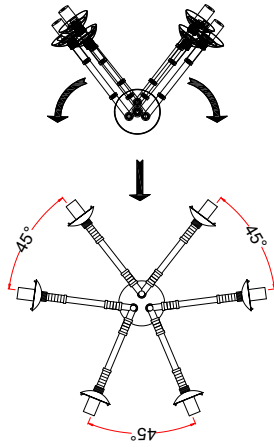

Fig 1.
3. Adjust the angle of the lamp arm according to Fig 1.
5. Remove mounting plate(A) from the canopy(B) by unscrewing the collar (C).
6. Pass the power wire (L) through the rods (G4), (G3), (G2), and (G1). Screw the rod (G4) to the lamp body (D) until tight. Repeat the same operation with rods (G3), (G2), and (G1). When you connect the rods, loosen the small hex screws (E) in the side hole first, then tighten them with an Allen wrench (U) after all rods are connected. Ensure that all the hexagonal screws are tightened securely.
7. Put the collar loop (C) and canopy (B) onto the rod (G1) in sequence, then thread the power wire (L) through the mounting plate (A). Secure the rod (G1) to the nipple of the mounting plate (A) until it is tight.